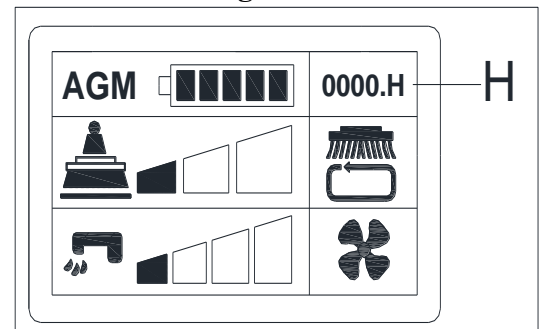

Figure 27
2. Press the switch (35, Figure 2), the hour meter begins to work and it at the same time shows the total number of working hours (H, Figure 27) on the display screen.
3. Release the switch (35).
4. Turn the ignition key (42) to "0".